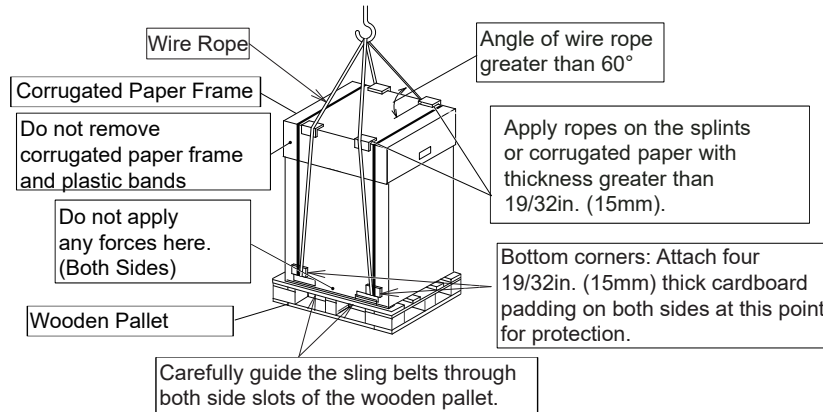

Fig. 3.1 Hanging Work for Transportation
- (1) Do not remove any packing materials.
- (2) Hang the unit in packaged state with two wire ropes, as shown in Fig. 3.1.